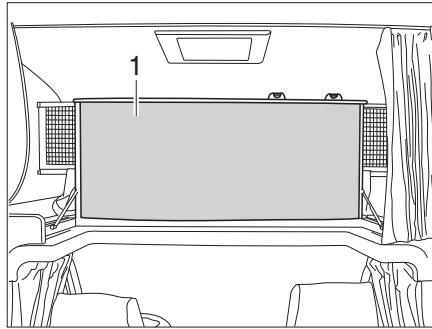

Fig. 157 Overcab bed, folded upwards
- Fold the front of the overcab bed (Fig. 157,1) upwards. The overcab bed is kept in the upper position by gas-pressure springs.